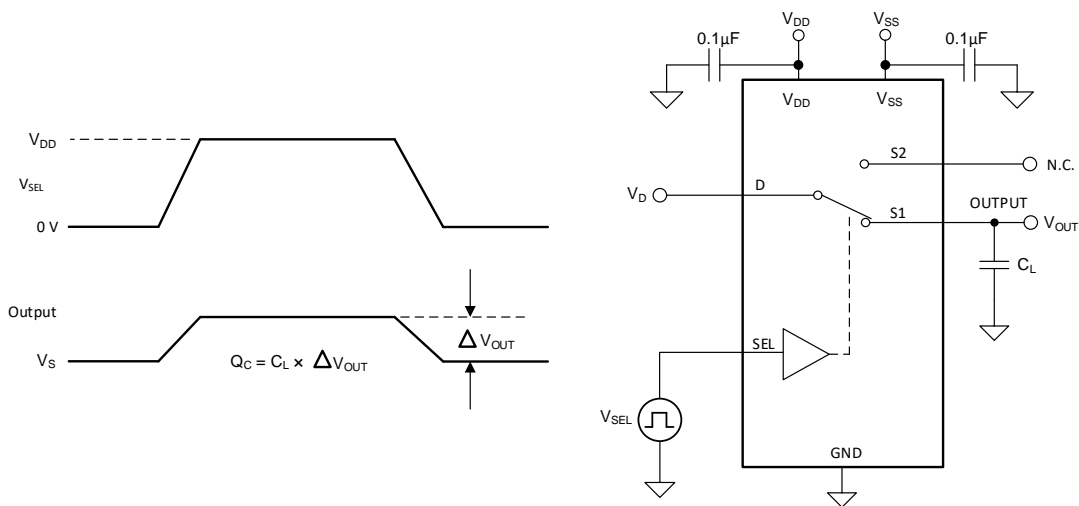

图 12. Charge-Injection Measurement Setup
The TMUX1247 has a transmission-gate topology. Any mismatch in capacitance between the NMOS and PMOS transistors results in a charge injected into the drain or source during the falling or rising edge of the gate signal. The amount of charge injected into the source or drain of the device is known as charge injection, and is denoted by the symbol Q_C . Figure 12 shows the setup used to measure charge injection from Drain (D) to Source (Sx).